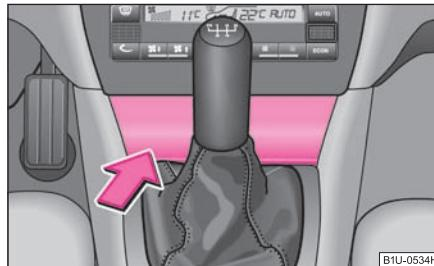

Fig. 83 Centre console: Front ashtray
- Press on the bottom part of the cover of the ashtray at the point of the arrow ⇒ fig. 83.